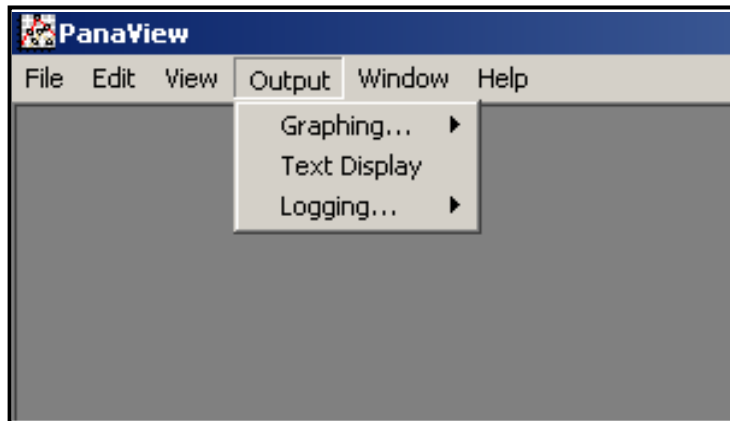

Figure 2: Output Menu
To access PanaView's data handling options, pull down the *Output* menu, as shown in *Figure 2* below.
2. Pull down the *Output* menu and click on the *Text Display* option (see Figure 2 on page 34).
2. Pull down the *Output* menu and click on the *Graphing - New* option (see Figure 2 on page 34).